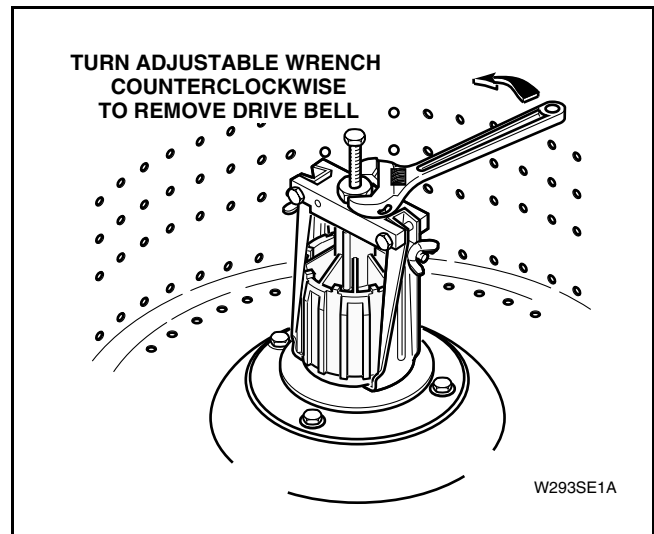

Figure 32
- i. Using an adjustable wrench, turn large nut on tool **COUNTERCLOCKWISE** to pull drive bell from transmission output shaft. Refer to *Figure 32*.